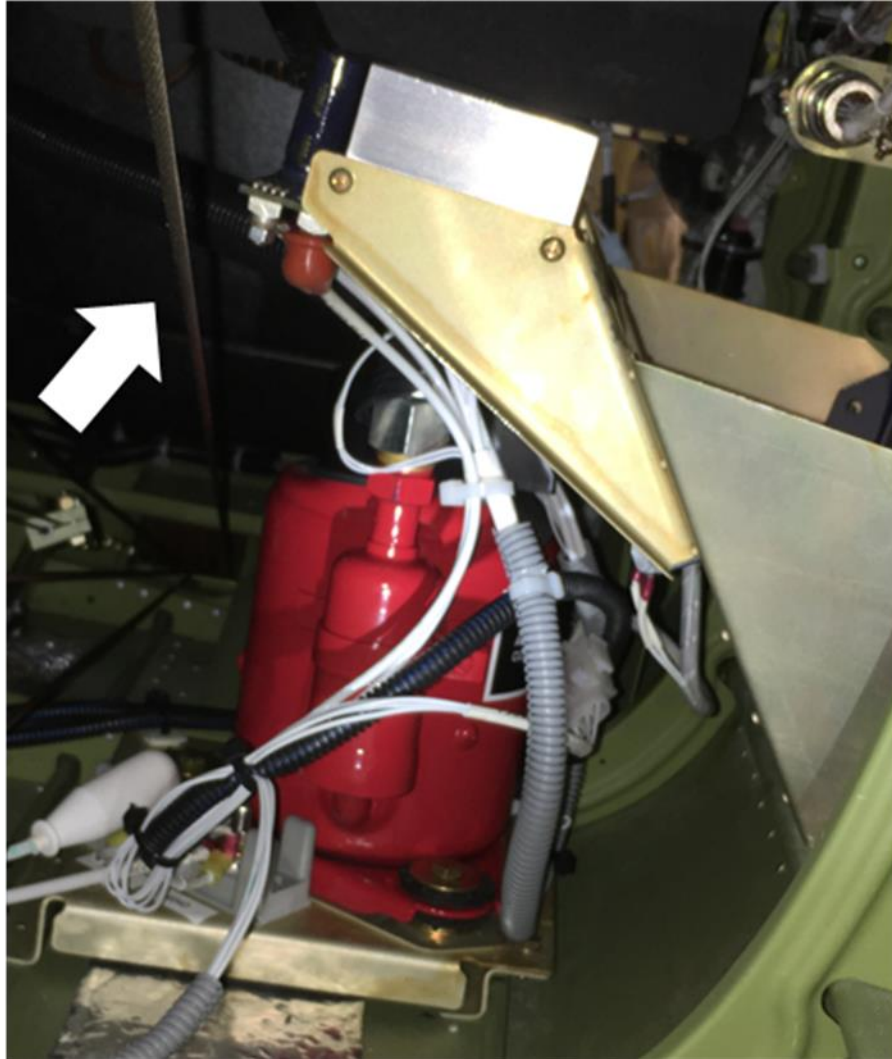

Figure 2
- Make sure the routing of the rudder control cable is correct in accordance with Figure 2 in KATS-SB-19-001.
- B. (If not already removed from the general visual inspection.) Remove Access Panel (310AB) located on the bottom of the tailcone, just in front of the horizontal stabilizer. (Refer to the 206H/T206H Maintenance Manual, Chapter 6, Access/Inspection Plates - Description and Operation, Figure 2.)
3. Install the 1212439-1 Access Panel, (310AB) with the kept screws. (Refer to the 206H/T206H Maintenance Manual, Chapter 6, Access/Inspection Plates - Description and Operation, Figure 2.)
2. Inspect rudder cable routing in tailcone to verify that rudder cable is routed properly, see figure 1 for example of improper routing, see figure 2 for example of proper routing.